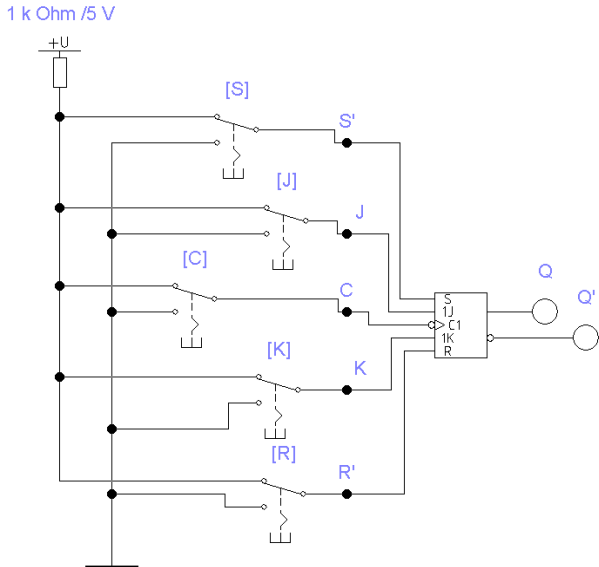

Figure 10.2 - Study scheme of the JK-trigger
3. Make the JK scheme - a flip-flop, depicted in fig. 10.2 (file 14_03 in the examples)